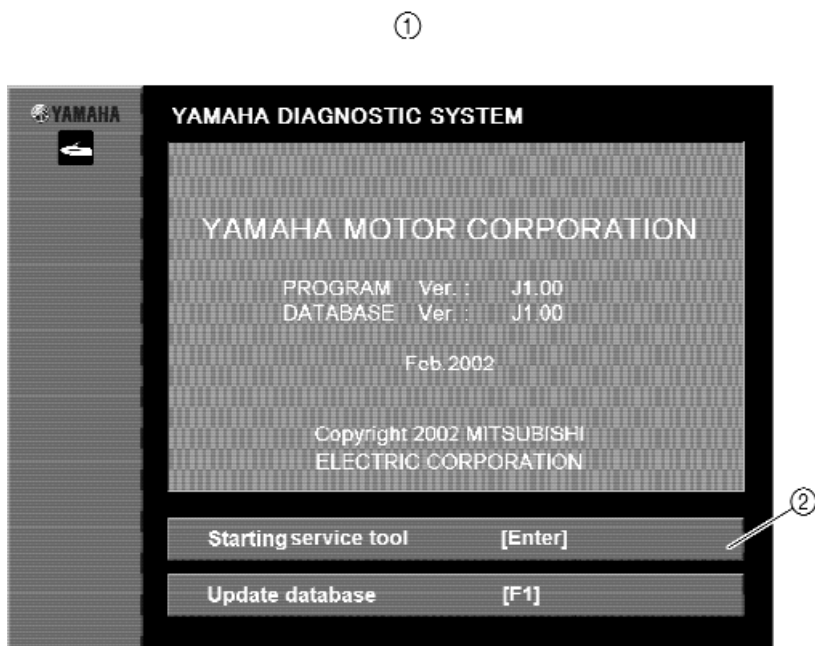

Fig. 21
4. Open the Yamaha Diagnostic System window. (Fig. 20) After about three seconds, the display will automatically go to the first menu, or click or press any key to go to the first menu. (See fig. 21.)
(Fig. 21)